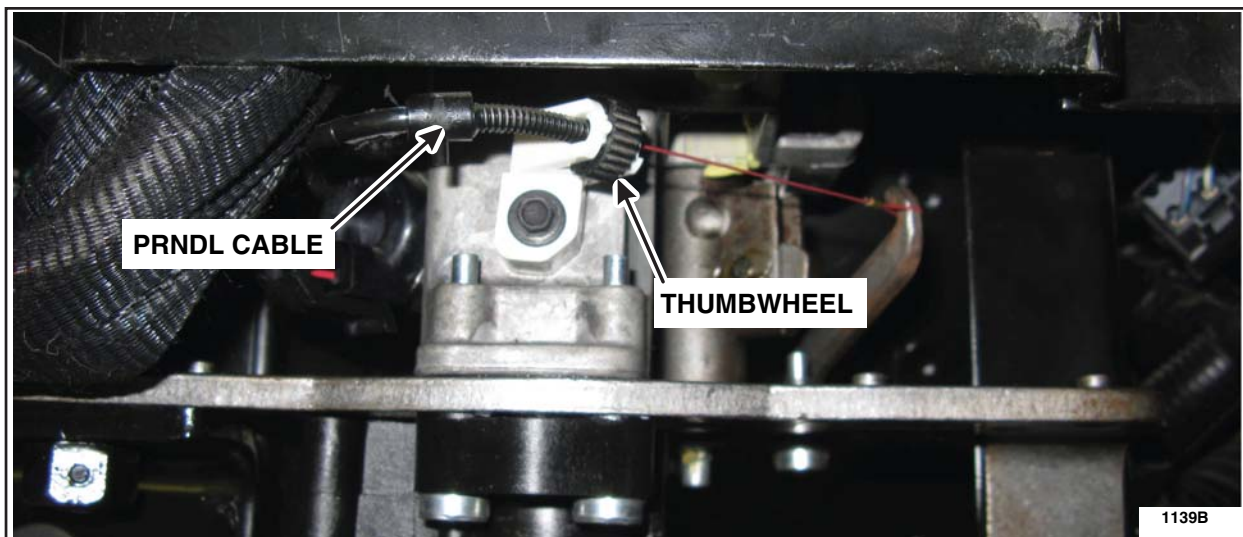

FIGURE 6
- c. Rotate the thumbwheel on the PRNDL cable until the PRNDL indicator is approximately in the middle of the "D." See Figure 6.